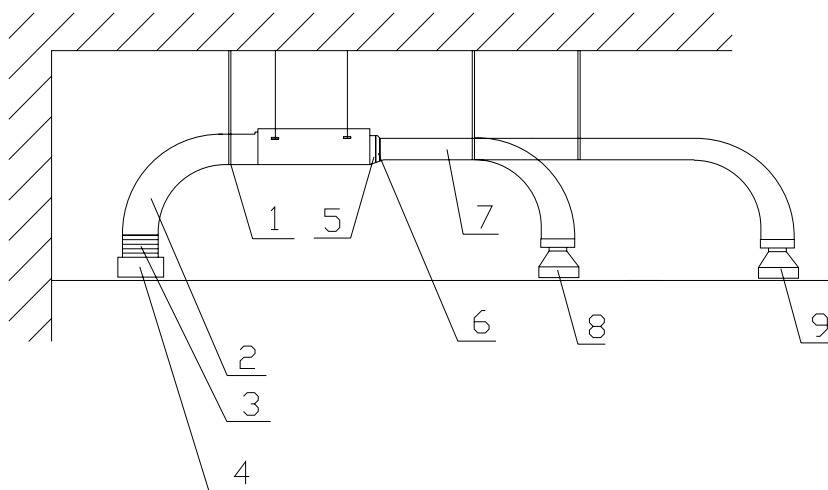

Figure 1-1-12
- ◆ Installation of Round Air Duct as shown in Figure 1-1-12